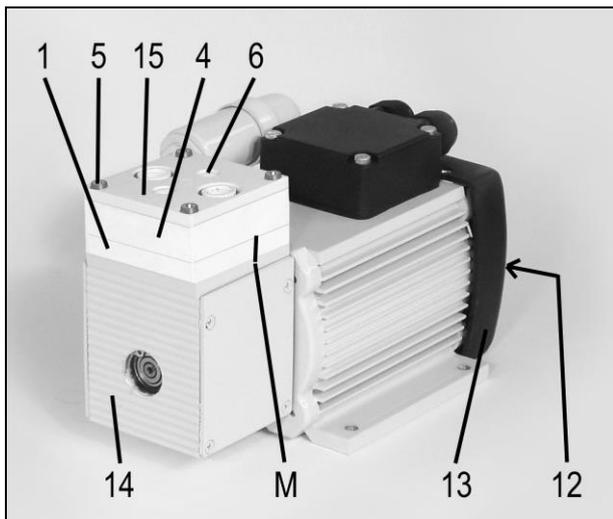

Fig. 2: Pump N 87 TTE
Proceed as follows (see figs. 2 and 3):
*according fig. 2 and 3